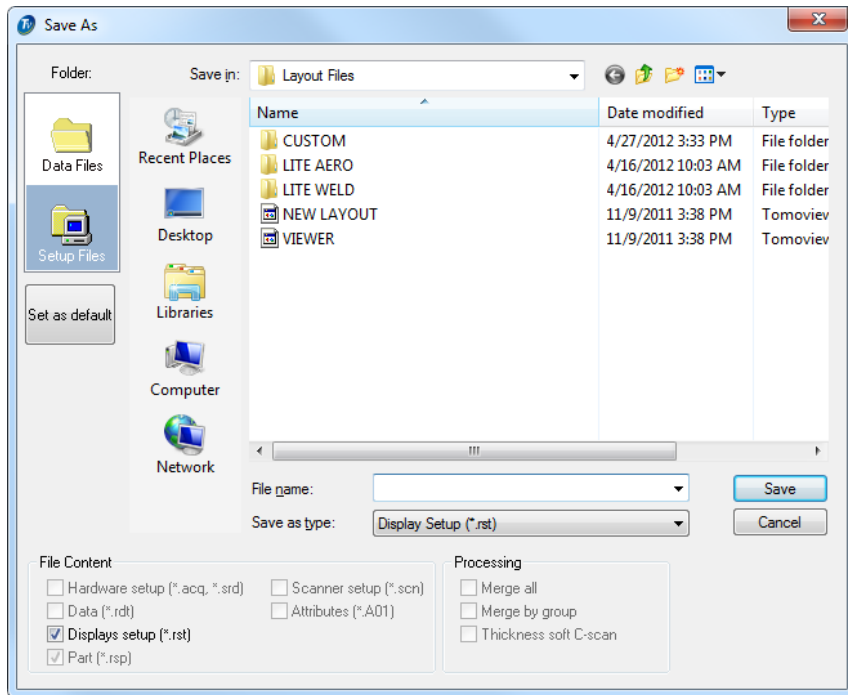

Figure 4-39 The Save As dialog box
2. In the **Save As** dialog box (see Figure 4-39 on page 265).